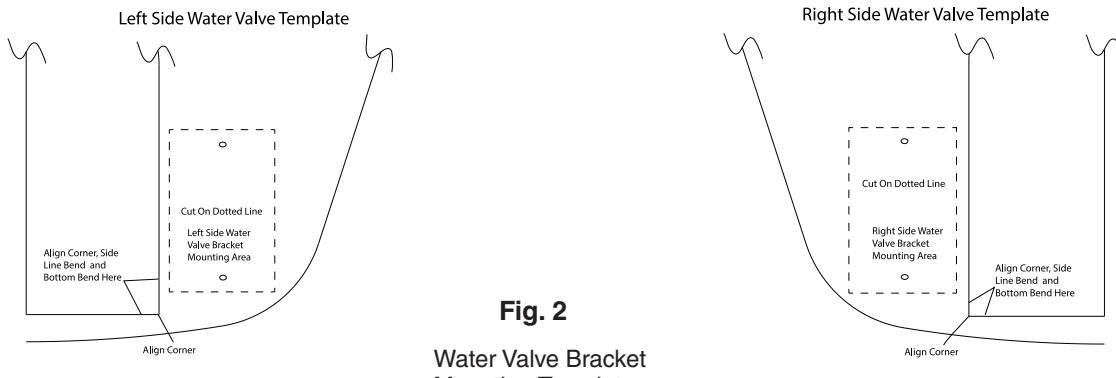

Fig. 2
- 5) Locate the correct water valve mounting template provided in this kit (right or left side). Next, cut out the mounting square area of the correct model template shown in Fig. 2.